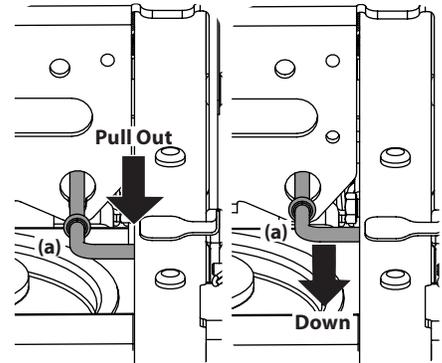

Figure 4-6
- Engage the transmission bypass by pulling out on the bypass rod (a) and then placing it down in the slot before releasing. See Figure 4-6.